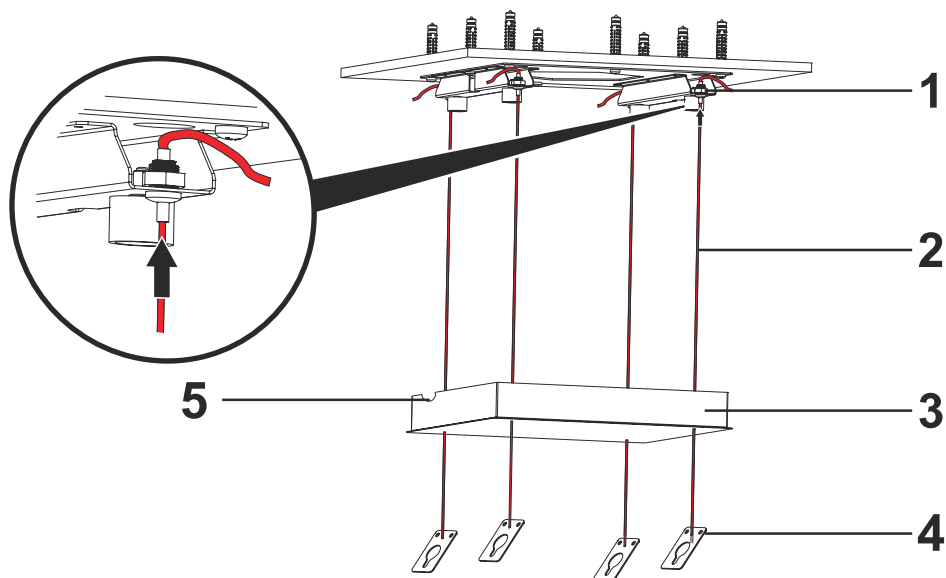

Fig. 14
1. ➤ Pass the product hanger wires (2) through the ceiling hanger plate (3). When this is done, the feed cable pass-through area (5) should be on the right hand side when looking at the product from the front (Fig. 14).
2. ➤ Pass the product hanger wires (2) through the locking mechanism of the ceiling hanger locking mechanism (1). Make sure that all hanger wires are of the desired length and even (Fig. 14).